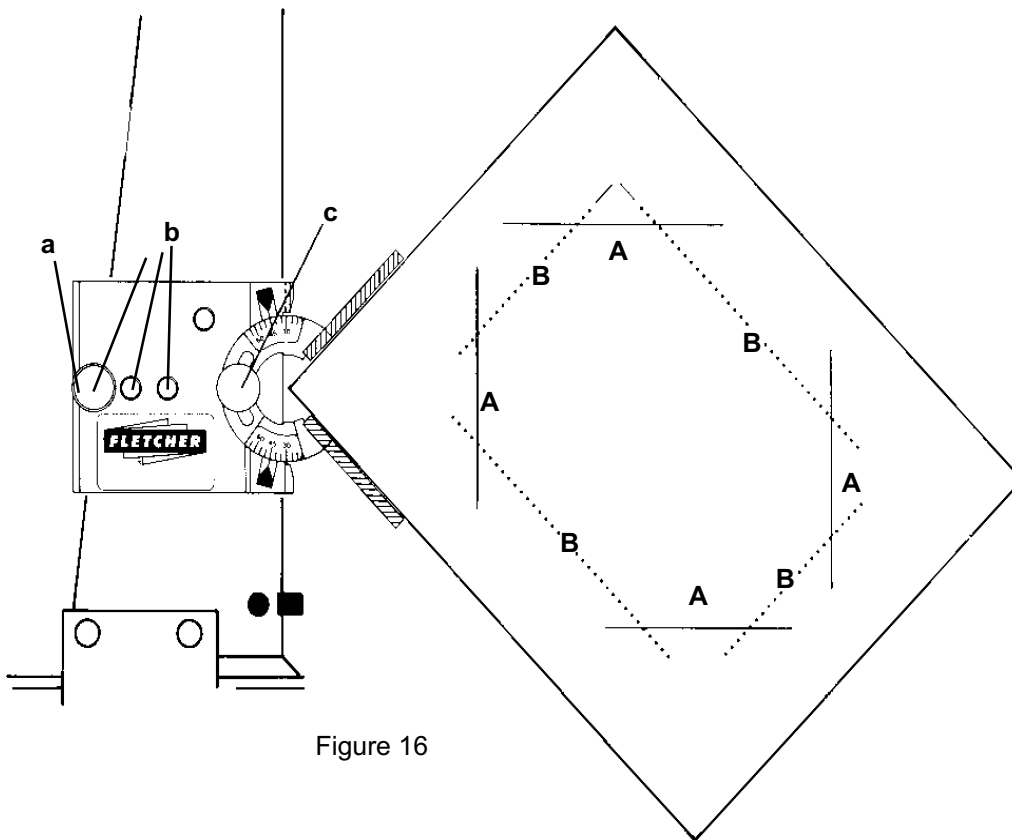

Figure 16
It is simple to attach the **Angle Mat Guide** to the **Mat Guide** on your Fletcher 2200. Refer to Figure 16. The **Locking Pin (a)** can be placed in any of the three holes (**b**). Selecting the hole on the left will locate the **Angle Mat Guide** at the lower end of the **Mat Guide** for smaller mats, up to 8" X 10" (200mm X 250mm). Using either of the next two holes to the right will locate the tool toward the upper end of the **Mat Guide** for large mats.
1. Figure 16 illustrates a simple 45 degree corner cut opening in an 8" x 10" (200mm x 250mm) mat. Mark pencil lines on the back of the mat in the conventional way starting with the **Mat Guide** set at 1-1/2" (38mm) as shown by lines labelled **B**.